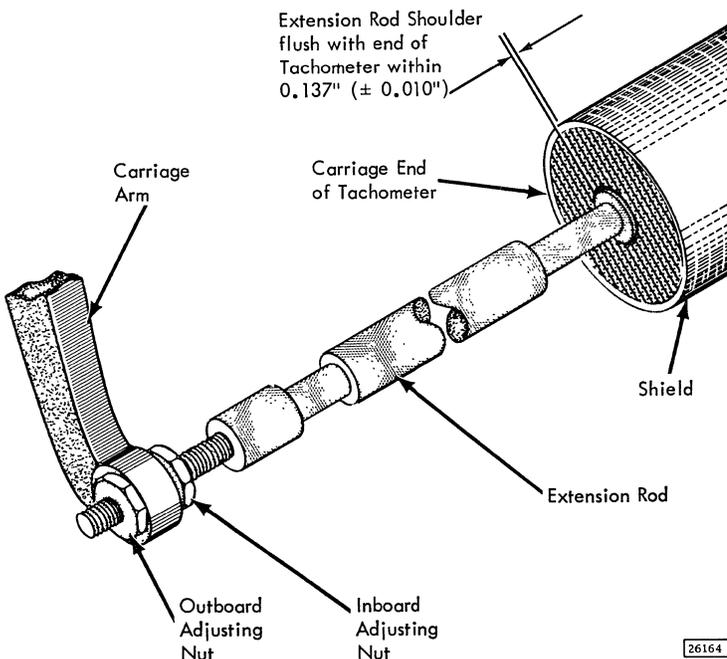

Figure 7-6. Tachometer Extension Rod Adjustment
The tachometer extension rod (Figure 7-6) is adjusted so that when the carriage is dented in track 000, the shoulder of the rod protrudes 0.137,
**NOTE:** This distance can be judged within 0.010-inch by eye (See Figure 7-6).